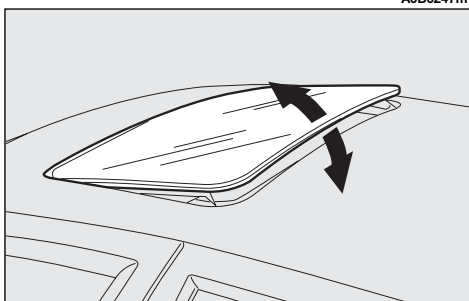
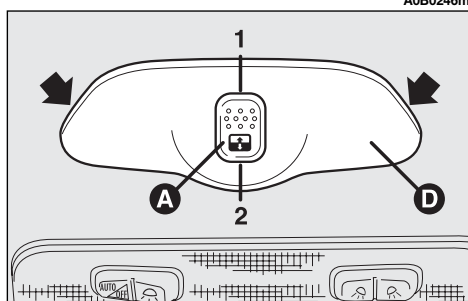

fig. 140
fig. 141
This can only be achieved (**fig. 140**) when the sunroof is completely closed, pressing front end **(2)** of the control button (**A-fig. 141**).
Press the rear end **(1)** of the button (**A-fig. 141**) to return the sunroof to the horizontal position (roof closed).
- apply leverage to the points indicated by the arrows and remove the plate with switch (**D-fig. 141**);